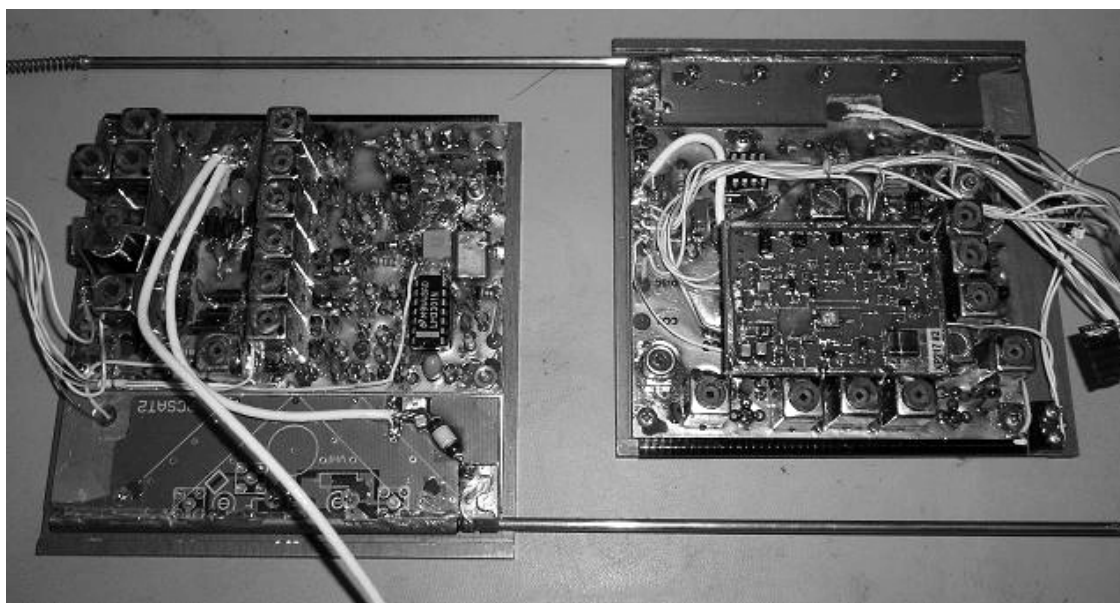

Figure 9: RAFT1 TX and RX panels with XP217.
At the Naval Academy, the XP217 was integrated with the other RAFT1 components. The TX and RX side panels are shown in Figure 9 and the XP217 is clearly visible on the right (RX) panel.